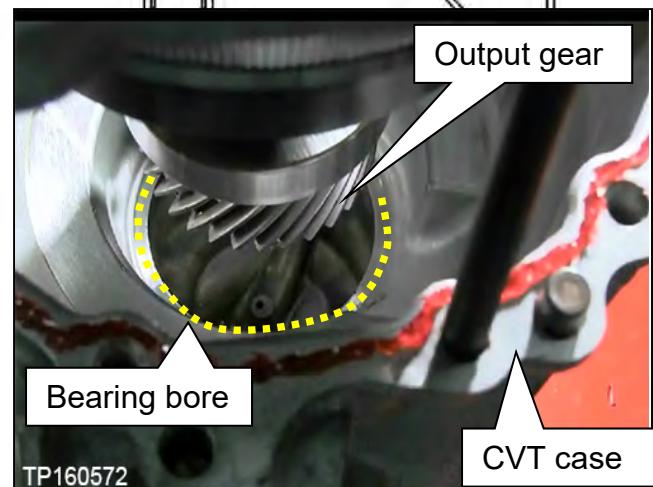

Figure 95
- While visually looking down into the bore (Figure 95) to confirm that the output gear is clearing the CVT case bearing bore,